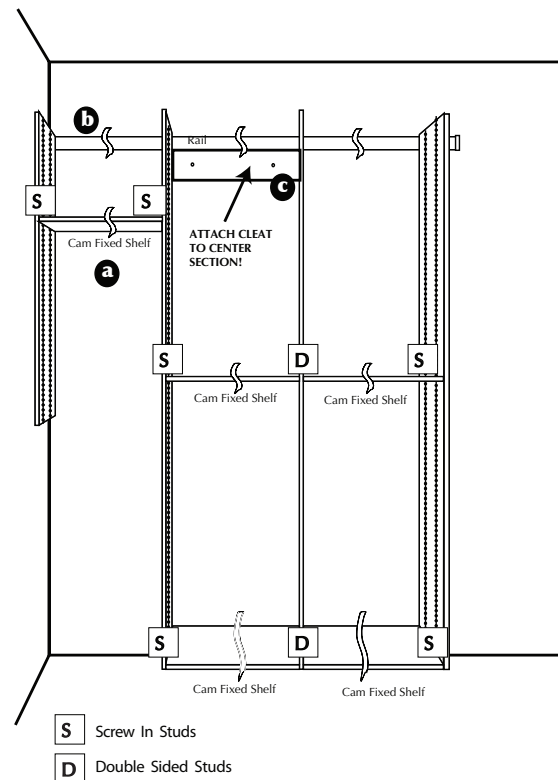

Fig. 5
8. Fasten all screw-in or double-sided studs into the system holes for the fixed shelves. (See Fig. 5.) Thread screw-in studs into partition holes until the stop ring is snug with the partition face. (See "Drawer" in "Drawer and Door Assembly" section for locations of fixed shelves above, below and between banks of drawers.)